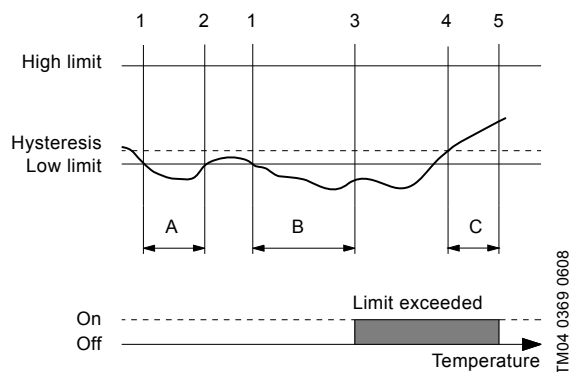

Fig. 36 Example of low limit exceeded
This is a monitoring function offering information, warning or alarm when a low or high limit is exceeded. See fig. 36.
The detection delay timer starts when a limit is exceeded (1). See fig. 36. The time is configurable.